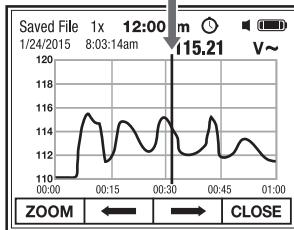

Fig. 14
The time line shown on the bottom of the graph indicates the time each measurement was recorded relative to the start of the recording (Fig. 14).
5. For greater resolution, momentarily press the **F1 ZOOM** soft key (Fig. 14) to expand the graph as shown below (the graph will expand up to 64 times depending on the number of measurement points):
6. Press the **F4 CLOSE** soft key to exit Saved File (Fig. 14).